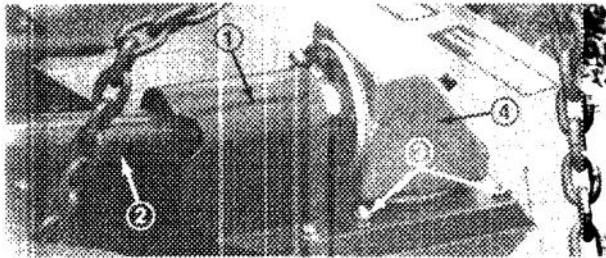

Figure 39
3. Remove PTO shield (Fig. 39). Drive roll pin out of PTO yoke and input shaft. Slide yoke off gear box input shaft (Fig. 39). Remove carriage bolts, lockwashers and nuts holding gear box on mounting plate (Fig. 39). Lift gear box and pulley assembly off mounting plate.